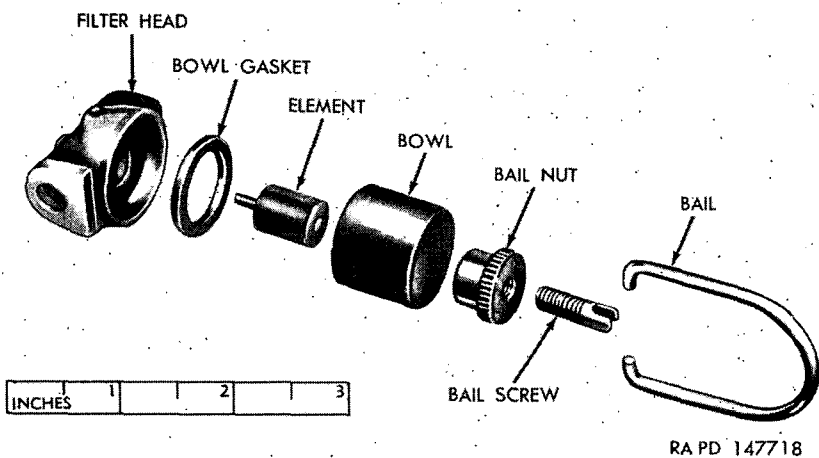

Figure 160. Primer line filter—exploded view.
d. **CLEANING PRIMER LINE FILTER** (fig. 160). Unscrew bail nut, located at bottom of bowl, and move bail so bowl can be removed. Remove bowl and element and thoroughly clean in volatile mineral spirits or dry-cleaning solvent. Carefully dry element using low pressure compressed air to prevent damage to element. Wipe bowl dry and install element, bowl gasket, and bowl on filter head. Position bail over bowl and tighten bail nut.